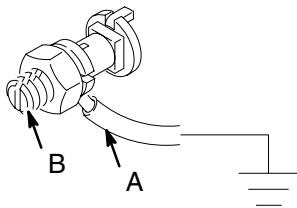

Fig. 1
Pump: Connect one end of a 12 ga (1.5 mm²) minimum ground wire (A) to the ground connector (B) on the pump. See Fig. 1. Connect the other end of the wire to a true earth ground.
Agitator and drum cover: Connect one end of ground wire (A) to ground connector (B) on rim of drum cover. See Fig. 1. Connect other end of ground wire to true earth ground.